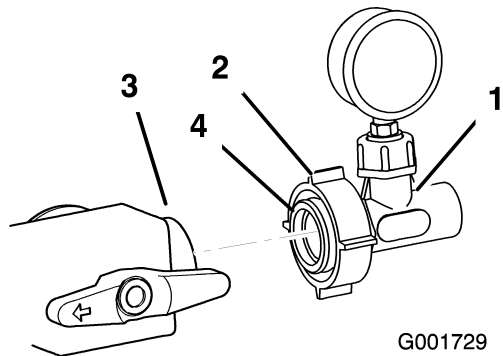

Figure 15
15. Lubricate the O-ring in the adapter with a non-petroleum based lubricant, such as vegetable oil (Figure 15).
16. Install the pressure gauge assembly to the forward facing opening in the control valve installed previously (Figure 15). Tight the plastic nut to secure the assembly to the valve.